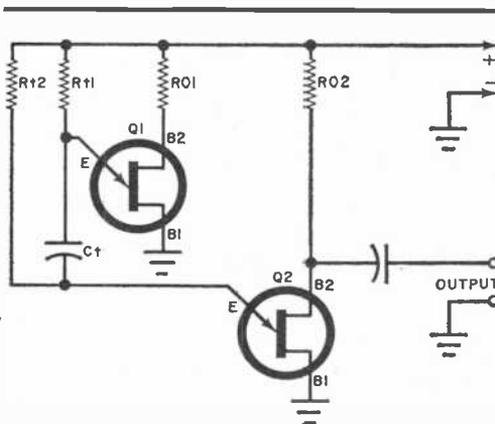

FIGURE 5
**Square-Wave Generator.** The circuit of a square-wave generator (actually a dual-UJT multivibrator) is shown in Fig. 5. This circuit generates excellent square waves within the frequency range of efficient operation of the unijunction transistors.